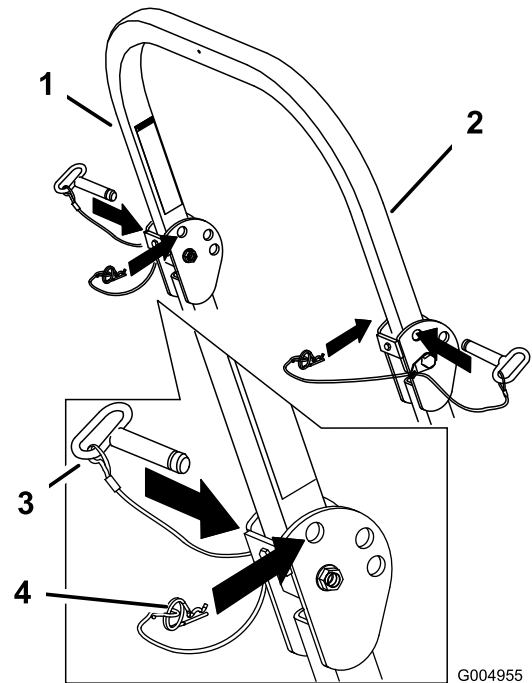

Figure 2
1. Remove the hairpin cotters and remove the 2 pins (Figure 2).
2. Raise the roll bar to the upright position, install the 2 pins, and secure them with the hairpin cotters (Figure 2).